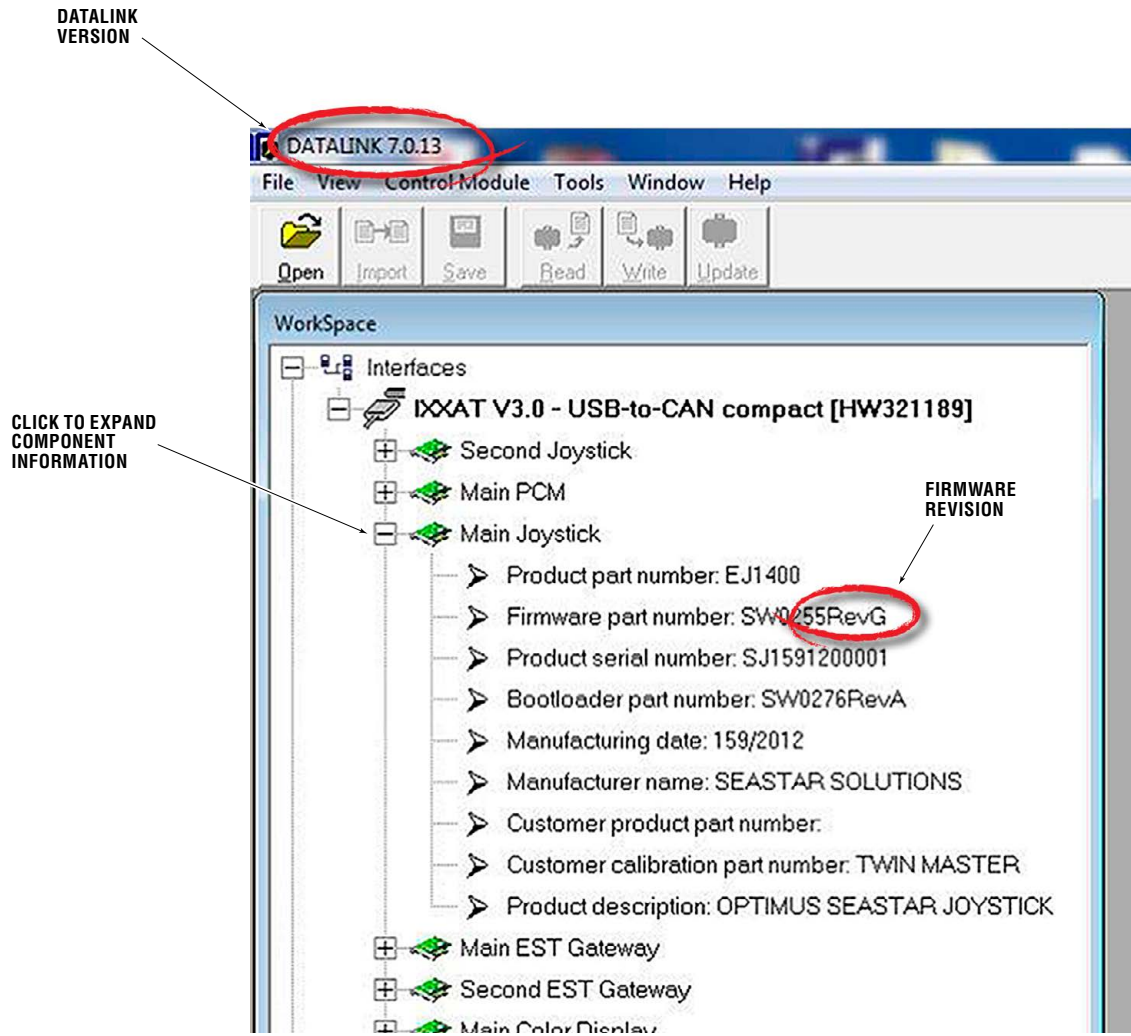

Figure E-6. Datalink Workspace.
1. In the Interfaces section in Datalink, click on the  box to expand the component information. See figure E-6. (In an EPS system you will see only the PCM and Helm in the component list.)